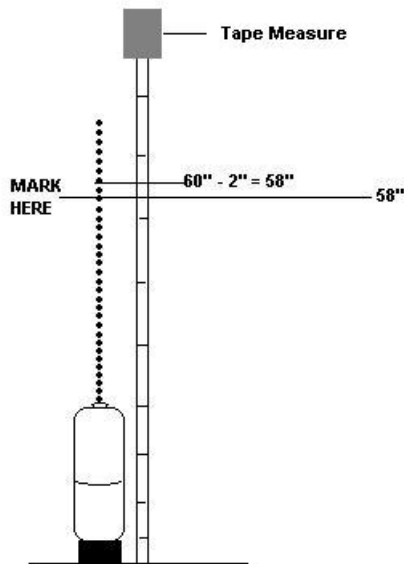

Fig. 2
3. Stand float on end on a flat work surface alongside a measuring tape and pull chain taut to desired measurement. (60") Subtract 2" and mark chain with marker at 58". See **Fig. 2**.